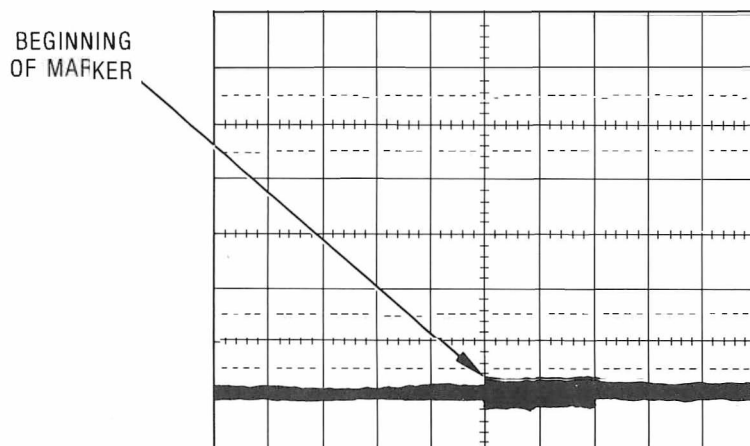

Figure 5-26. Z-Axis Marker Waveform
9. On oscilloscope, position marker to center screen with horizontal position control. Press oscilloscope MAG X 10. Reposition the beginning of the marker at center line of screen with horizontal position control. (See Figure 5-26.)